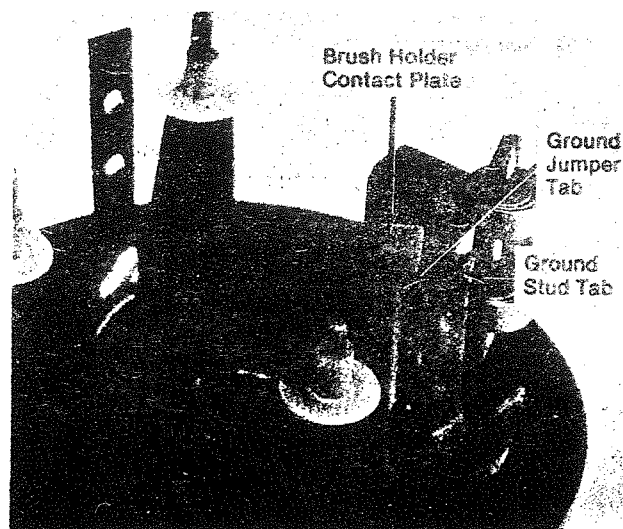

Figure 20
1.3.2 Place jumper on CE housing and position it along with a brush holder as shown in figure 20.